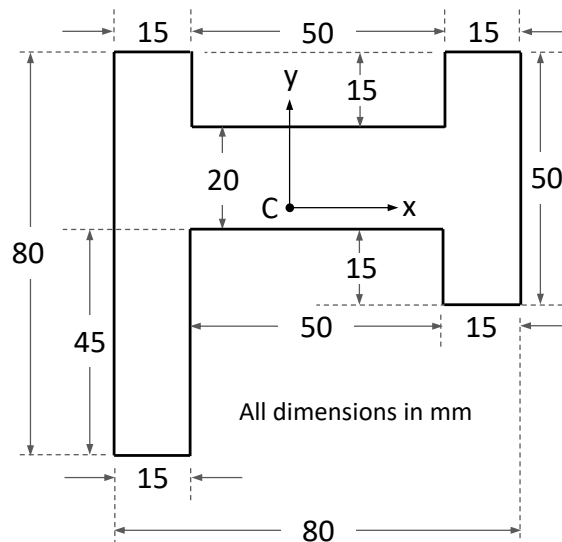

Figure Q2
2. Figure Q2 shows the cross-section of a beam.